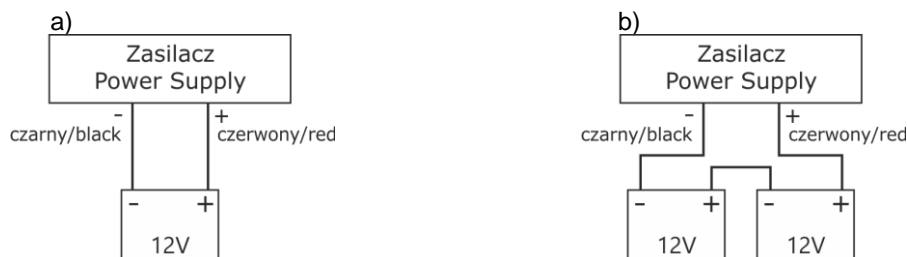

Fig. 4 Connecting batteries depending on voltage version of power supply:
6. Mount the battery in the battery compartment of the enclosure (Fig. 3). Connect the batteries with the PSU paying special attention to the correct polarity and type of connections (Fig.4):